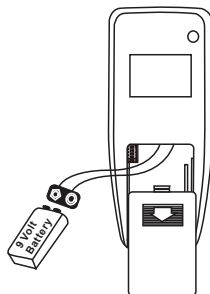

FIGURE 4
- Install a 9 volt battery (not included). To prevent damage to the transmitter, remove the battery if not used for long periods of time. (Figure 4)